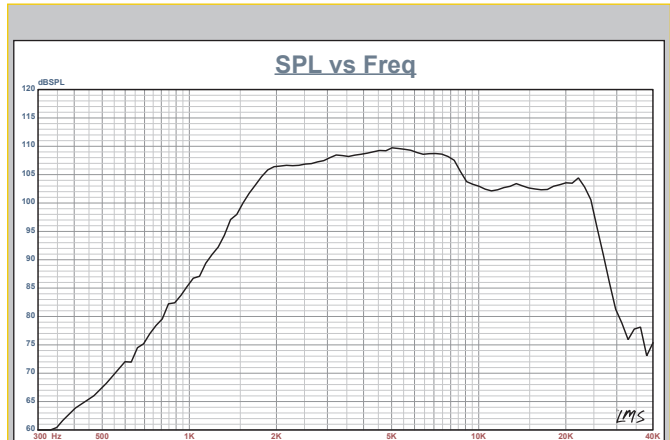

Figure 2: Faital Pro FD371's on-axis response
Next, I mounted Faital Pro's FD371 in an enclosure with a 15" × 6" baffle and measured the on- and off-axis frequency response at 2.83 V/1 m with a 100-point gated sine wave sweep. **Figure 2** shows the bullet
Note that the function (7) transforms $T_{LS}(f)$ into $T_0(f)$ in both amplitude and phase, although **Figure 1** and **Figure 2** plot only the amplitude.
Figure 2 shows the response of three hypothetical loudspeakers (thick curves): red ($f_c = 80$ Hz, $Q_c = 1.5$), green ($f_c = 100$ Hz, $Q_c = 1.5$), blue ($f_c = 45$ Hz, $Q_c = 1/\sqrt{2}$). The two thin curves (red and green) are relative to two equalizers, which transform the loudspeaker response of the corresponding color into the blue one.